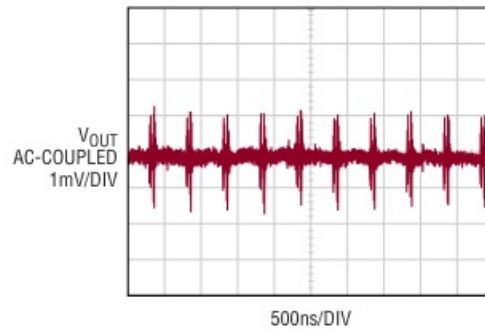

Figure 6. LT8625SP-1 Demo Circuit DC3220A Output Voltage Ripple Measured through J4 (12V Input, $I_{OUT} = 8A$, 200MHz BW)
5. Output voltage ripple at capacitor C22 can be measured through the VO_SENSE SMA connector (refer to Figure 6).
NOTE: When measuring the input or output voltage ripple, care must be taken to avoid a long ground lead on the oscilloscope probe. Measure the output voltage ripple by touching the probe tip directly across the output capacitor. For input voltage ripple and the remote output voltage ripple, they can also be measured through the SMA connectors via VIN_SENSE and VO_SENSE. Figure 6 shows the output voltage ripple measured at the output capacitor C22 through the VO_SENSE SMA connector.